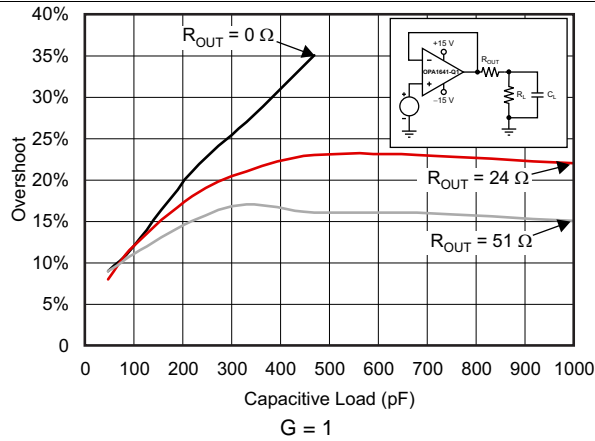
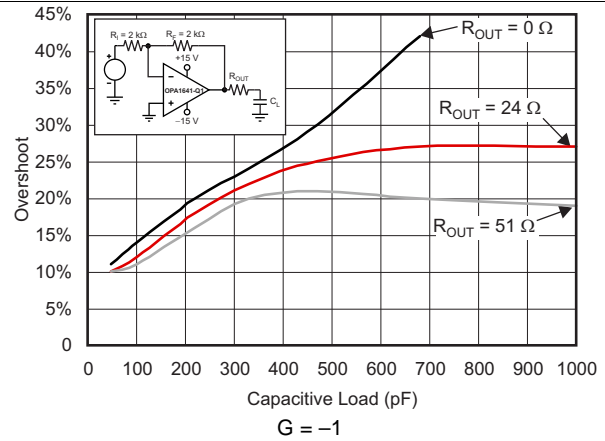

Figure 19. Small-Signal Overshoot vs Capacitive Load (100-mV Output Step)
Figure 20. Small-Signal Overshoot vs Capacitive Load (100-mV Output Step)
(1) Full power bandwidth = $\text{SR} / (2\pi \times V_P)$, where SR = slew rate.
(2) See Figure 19 and Figure 20.
Figure 19 and Figure 20 illustrate graphs of *Small-Signal Overshoot vs Capacitive Load* for several values of R_{OUT} . For details of analysis techniques and application circuits, see Feedback Plots Define Op Amp AC Performance available for download at www.ti.com